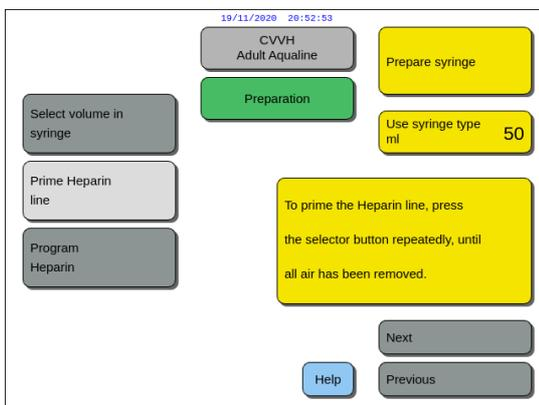

Fig. 67
2. Press *Main selector button*  as many times as necessary until all air is removed from the line (Fig. 67).